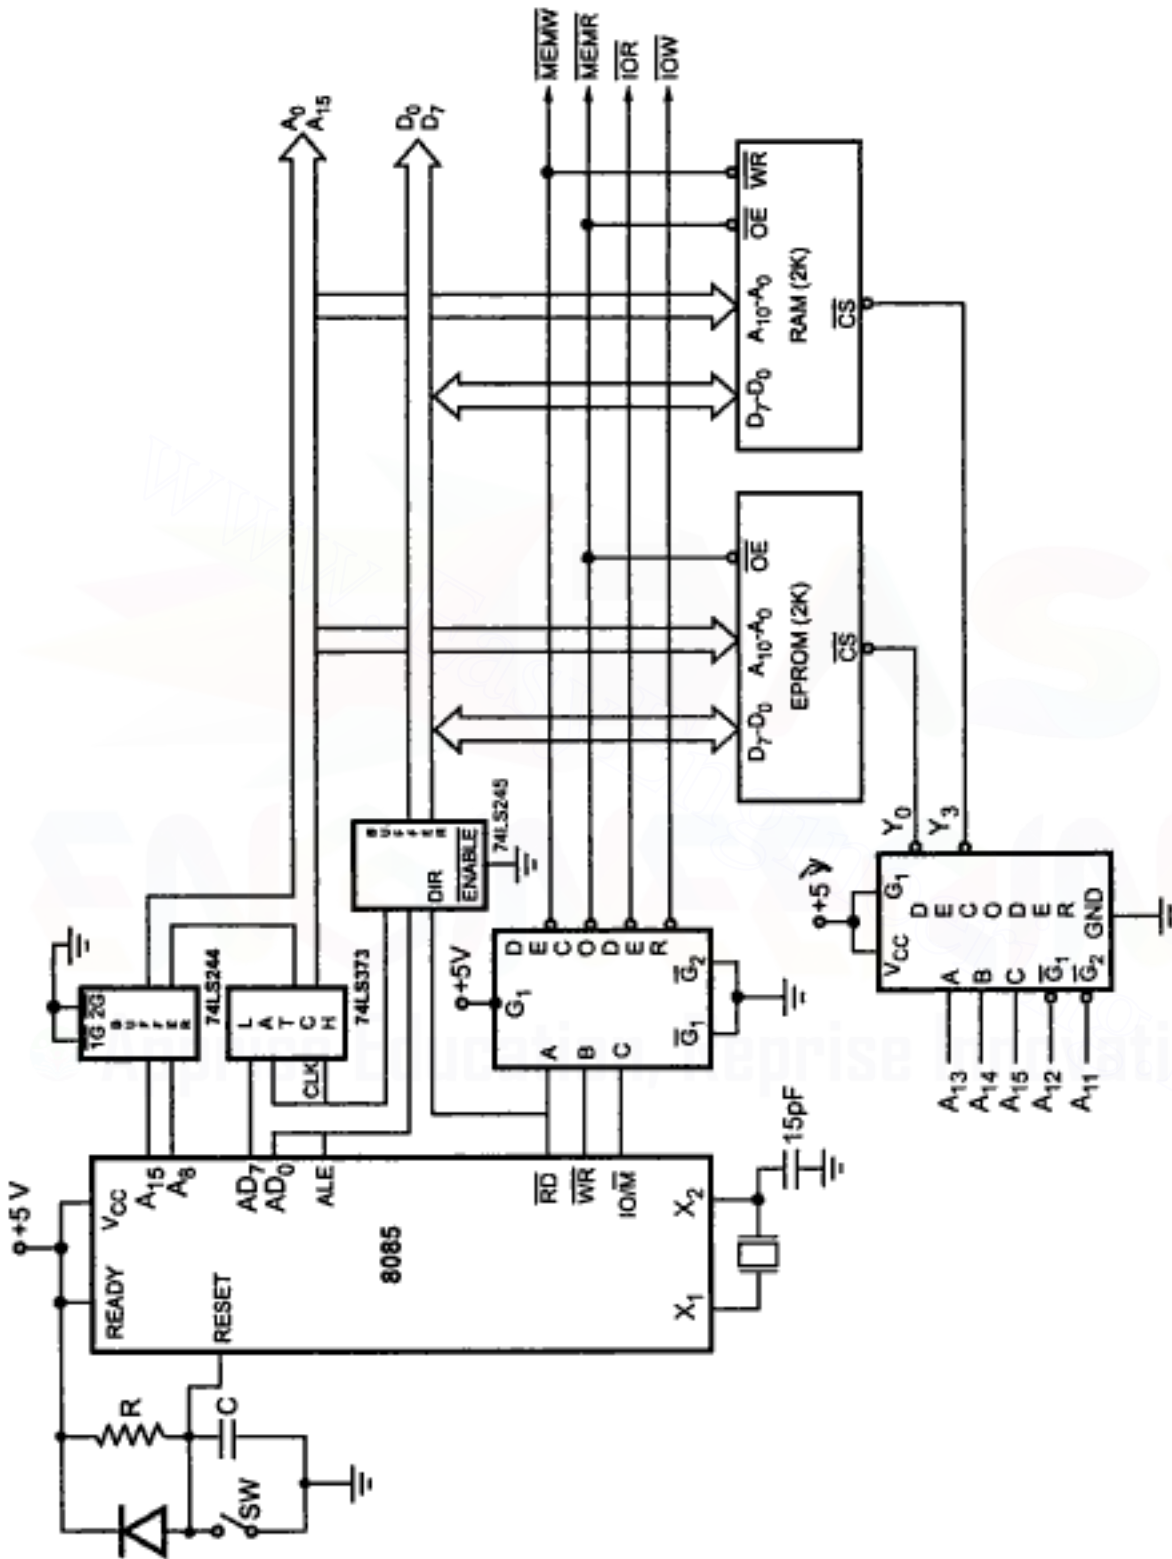

Fig. 6.22 Memory system using 2 Kbyte EPROM and 2 Kbyte RAM
**Solution :** Fig. 6.22 (See on page no.6-33) shows the desired memory system using 2 Kbyte EPROM and 2 Kbyte RAM. Both EPROM and RAM are 2K, so they require 11 address lines (A10 - A0). The remaining higher address lines (A15 - A11) are used to generate chip select ( $\overline{CS}$ ) signals.